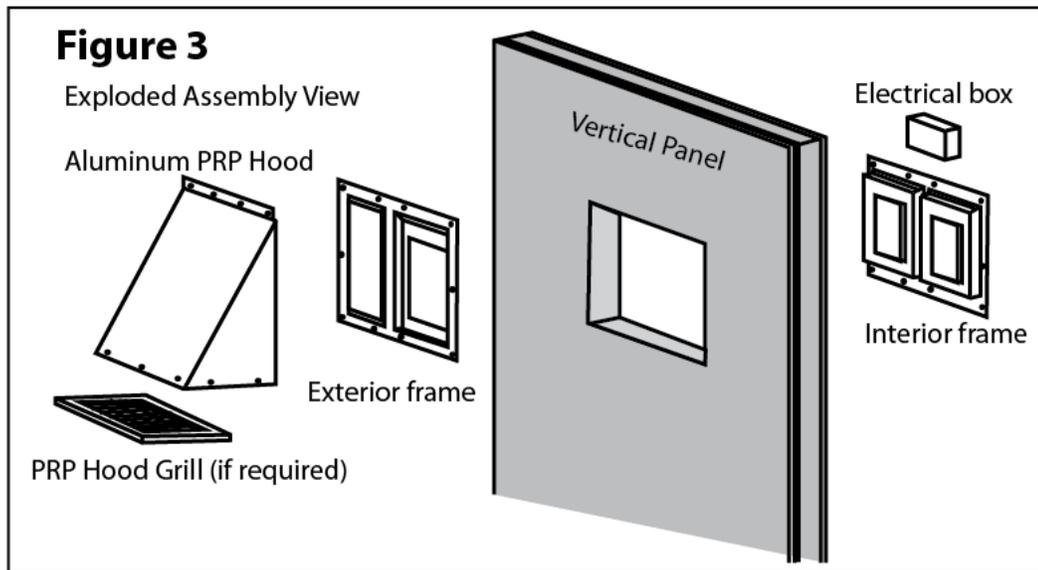

Figure 3
2. Center aluminum PRP hood over pressure relief port (Figure 3) and fasten with 12-14 x 1½" TEK #2 Screws.